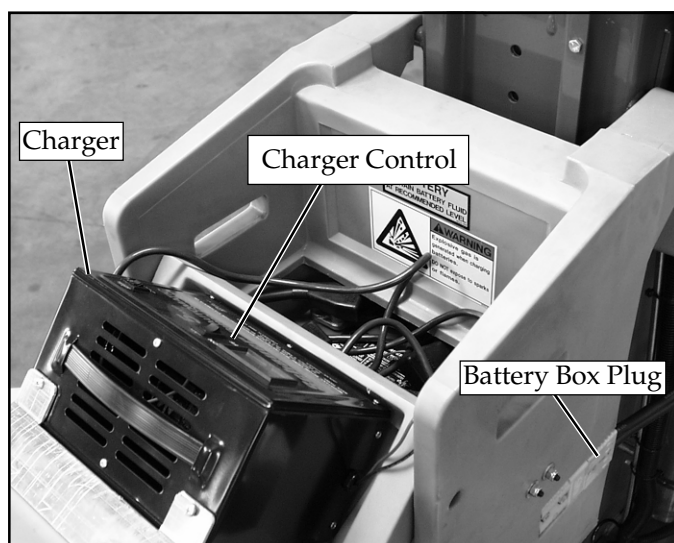

Figure 2-8: Battery Box
1. Disconnect the plug from the battery box and remove the battery box from the rear of the machine (Fig. 2-8).